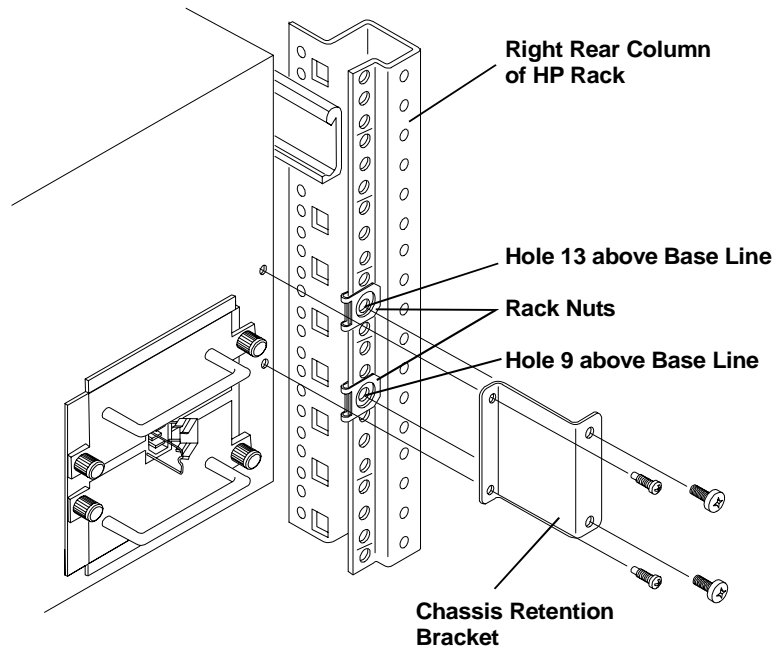

Figure 3-9. Screw Bracket to Rack and NetServer (Shown for HP NetServer LH 3r; Number of Power Supply Modules May Vary)
1. Position the bracket as shown in Figure 3-9.